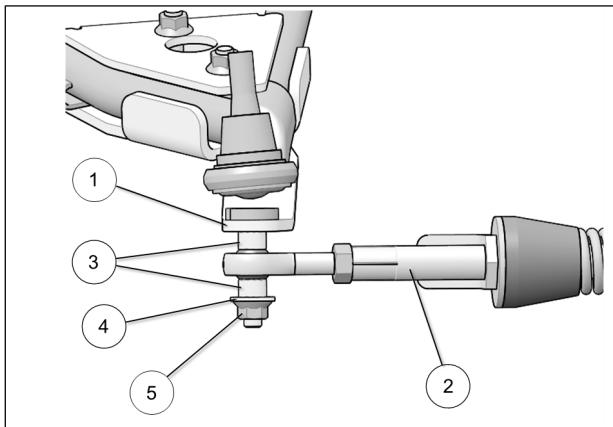

Fig. 18
- Attach the stabilizing rod (2) to the anchor bracket (1), using the two spacer bushings (3), washer (4), and nut (5). Torque to 70 N•m [52 lb•ft]. See Fig. 18